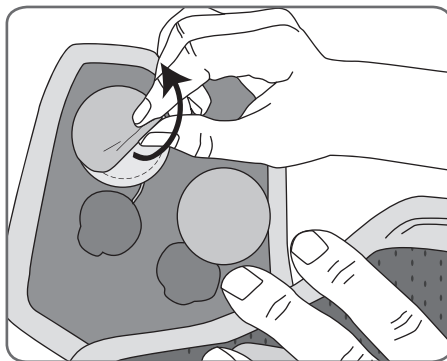

Figure 55: Removing used cloth electrodes.
2. Gently pull the used cloth electrodes from the cloth electrode bases. Be careful not to detach the cloth electrode bases from the L300 FS Cuff. See Figure 55.